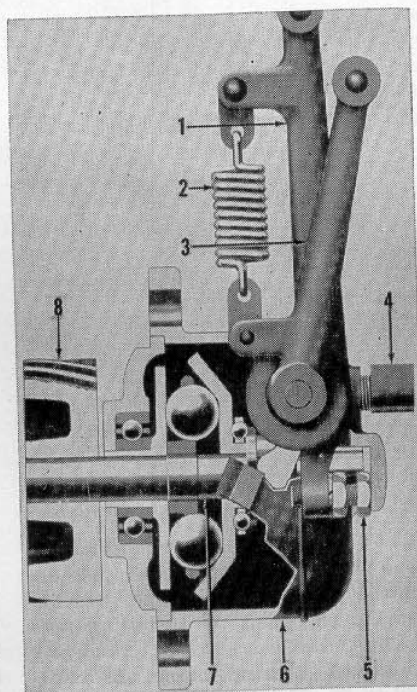

Fig. FO28—Novi ball type governor used on models 2N-8N-9N tractors.
44. **ADJUSTMENT.** The governor spring (2—Fig. FO28) should be a snug fit but should have no end play and no pre-load. Spring may be adjusted by bending the loop on the spring with pliers. Check engine speed at Power Take-Off shaft or belt pulley, after engine is warmed up. Correct governed